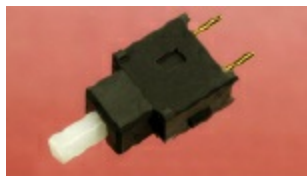

Figure 2-11. The terminals protruding from this tiny pushbutton are spaced 0.2 inches apart, making it ideal for the “breadboard” that you’ll be using.
Momentary-on, SPST, sometimes referred to as OFF-(ON) or (ON)-OFF type. Must be PCB- or PC-mount, meaning is extremely small with thin spiky contacts on the bottom. Quantity: 1. See Figure 2-11.